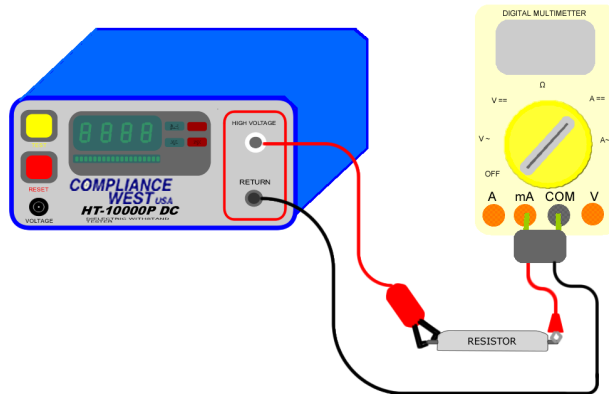

Figure 4-2. Connection for Current Adjustment.
2. Connect the output of the HT-10000P through a 100 watt high voltage load resistor (240k Ω) in series with an external current meter returning to the Return jack on the front panel of the HT-10000P as is shown on figure 4-2.
2. Connect the output of the HT-10000P through a 100 watt high voltage load resistor (240k Ω) in series with an external current meter returning to the Return jack on the front panel of the HT-10000P as is shown on figure 4-2. Use the proper HV output for AC or DC.
2. Connect the output of the HT-10000P through a 100 watt high voltage load resistor (240k Ω) in series with an external current meter returning to the Return jack on the front panel of the HT-10000P as is shown on figure 4-2. Use the proper HV output for AC/DC model.